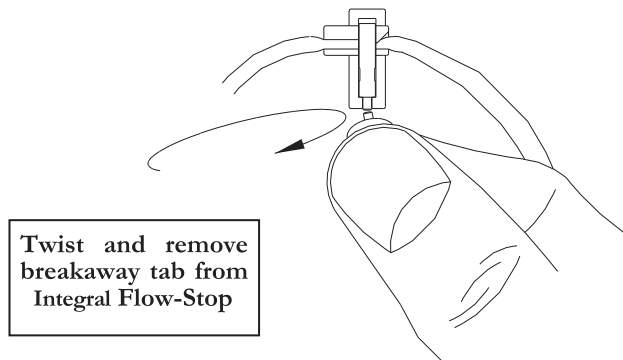

Figure 1.5 Moog Curlin Infusion Administration set Integral Flow-Stop with breakaway tab
1. To gravity prime the administration set, twist and remove the breakaway tab from the Integral Flow-Stop, then spike the IV bag. Squeeze the Integral Flow-Stop between your thumb and forefinger to allow fluid to flow through the tubing until all air is removed from the IV bag and administration set (See figures 1.5 and 1.6). Release the Integral Flow-Stop to automatically clamp the tubing.